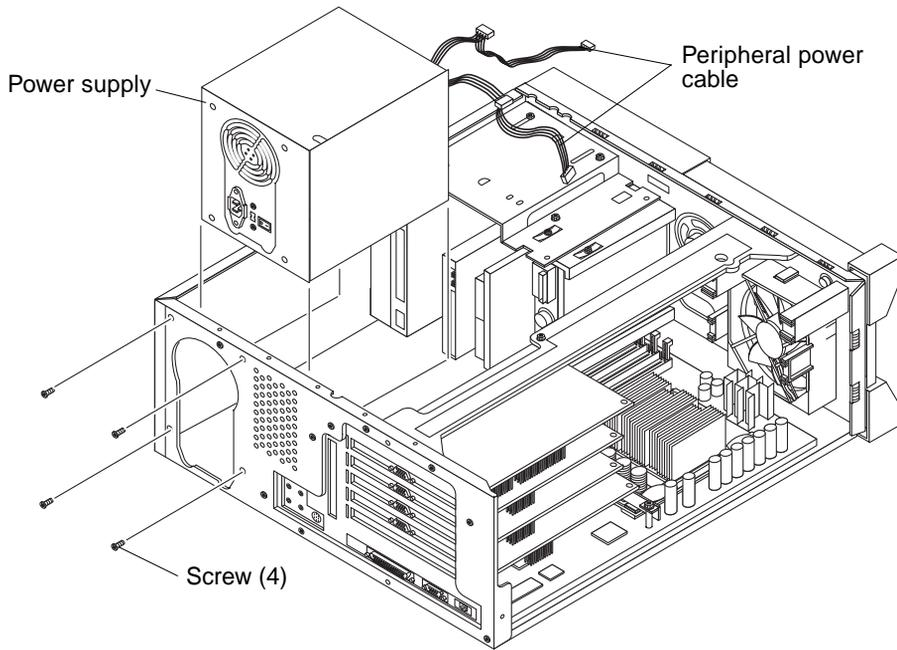

FIGURE 8-2 Removing and Replacing the Power Supply (Ultra 10)
6. Remove the power supply from the Ultra 10 as follows (FIGURE 8-2):